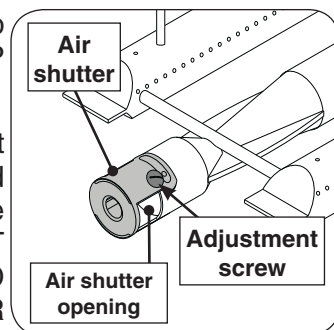

Fig. 35-2 Air shutter
3. Adjust the air shutter opening by loosening the adjustment screw with a screwdriver, then turn the air shutter to open or close it (see Fig. 35-2).